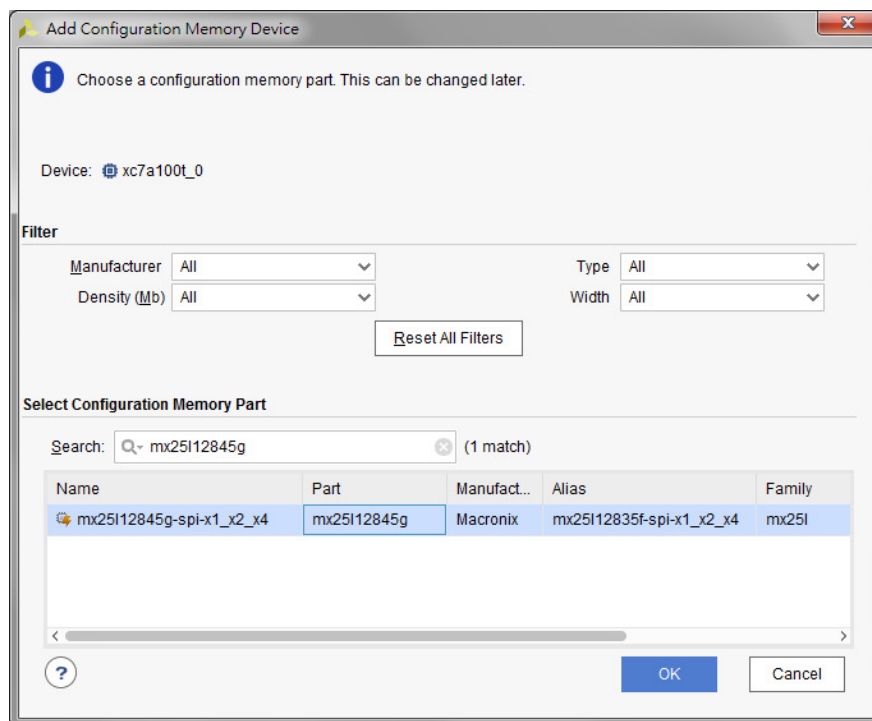

Figure 11. Select “mx25l12845g-spi-x1_x2_x4” memory
- ❖ Type “mx25l12845g-spi-x1_x2_x4” into Search field and select the device then click on “OK” as Figure 11.